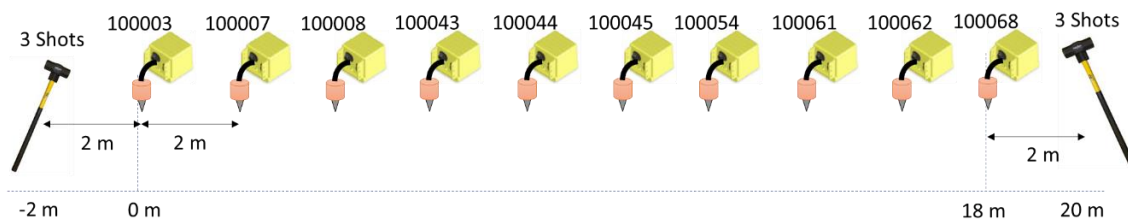

Figure 14.5 Source-receiver configuration corresponding to the Figure 14.3.
7) Pickwin is launched and the list of shot records appear in a dialog box. Set up source location, receiver interval etc. Figure 14.4 shows the setting for the sample data described in the section 17. Figure 14.5 shows the source-receiver configuration of the sample data corresponding to the Figure 14.4.